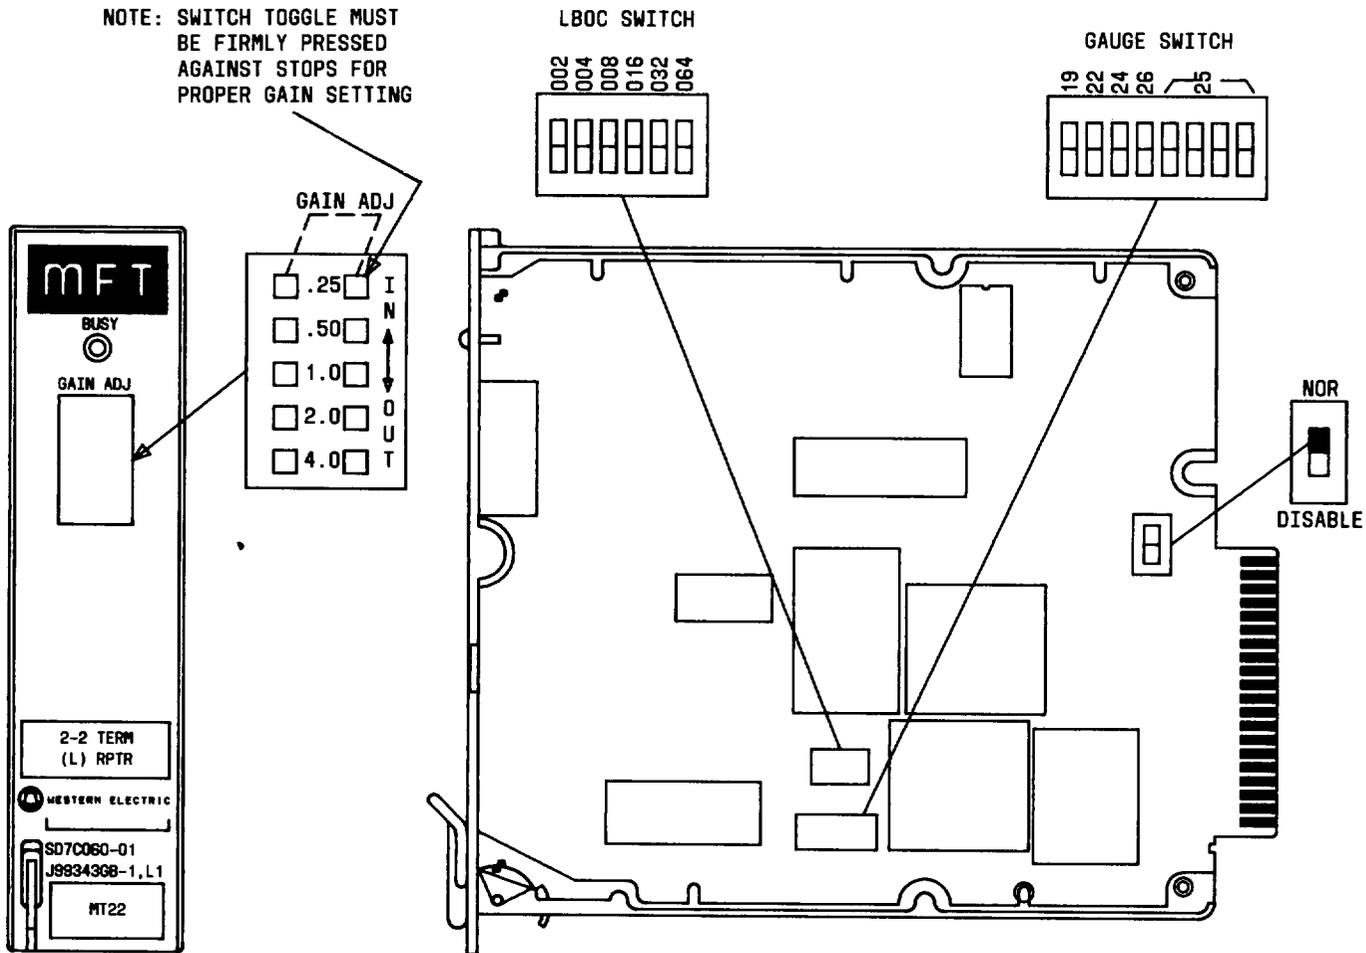

Fig. 1 — J99343GB Combined Function Unit
2.01 The J99343GB is shown in Fig. 1. It provides gain and equalization on 2-wire circuits be-
2.16 The rocker-type switches for a particular function, which are described in the following paragraphs, are operated when depressed toward the respective designation. The sum of the values of the switches operated is the setting for that function. The unit controls are illustrated in Fig. 1.